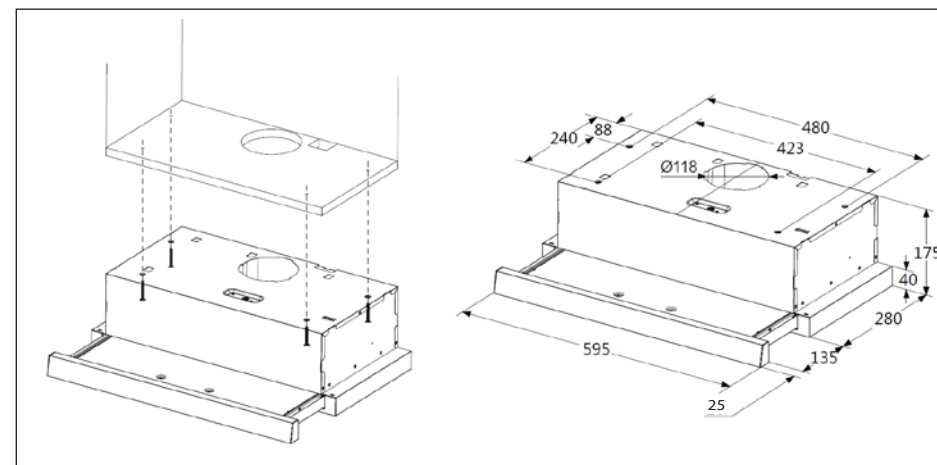
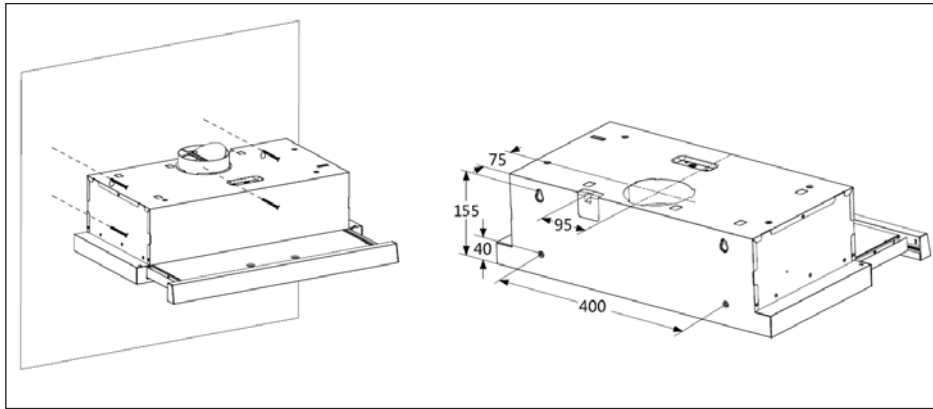

Fig. 5
Fig. 6
4. Drill holes and attach the hood according to Fig. 5 or Fig. 6.